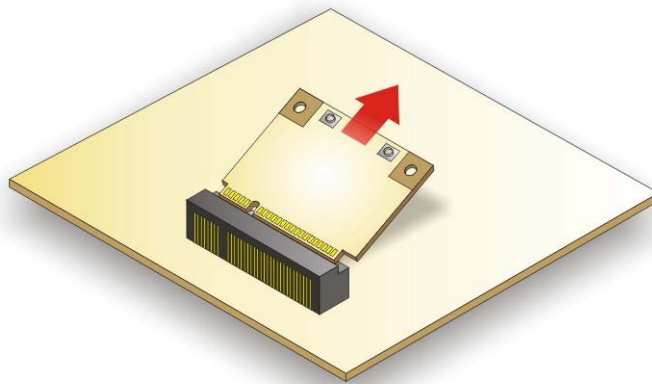

Figure 5-3: Removing the WLAN Card
Step 6: Grasp the WLAN card by the edges and carefully pull it out of the socket (**Figure 5-3**).